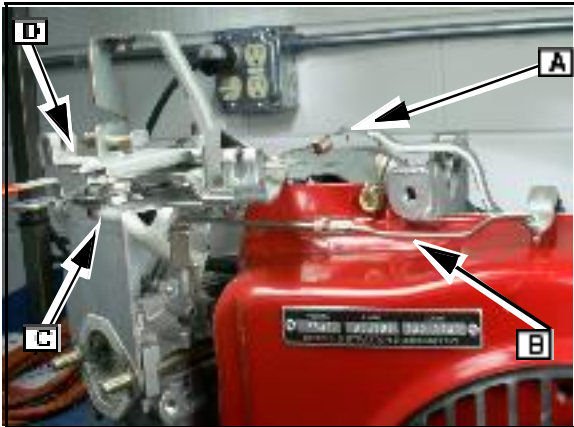

Fig. 17
7. Install the governor lever and connect the return spring (A), carburetor throttle link (B) and the choke link (C) to the control bracket (D) Fig. 17).